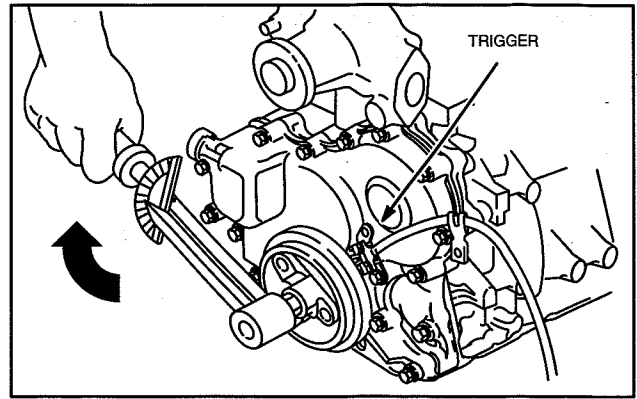

Fig. 18 – Installing Pulley
9. Install crankshaft pulley with timing mark at 12 o'clock position (#1 cylinder), Fig. 18.